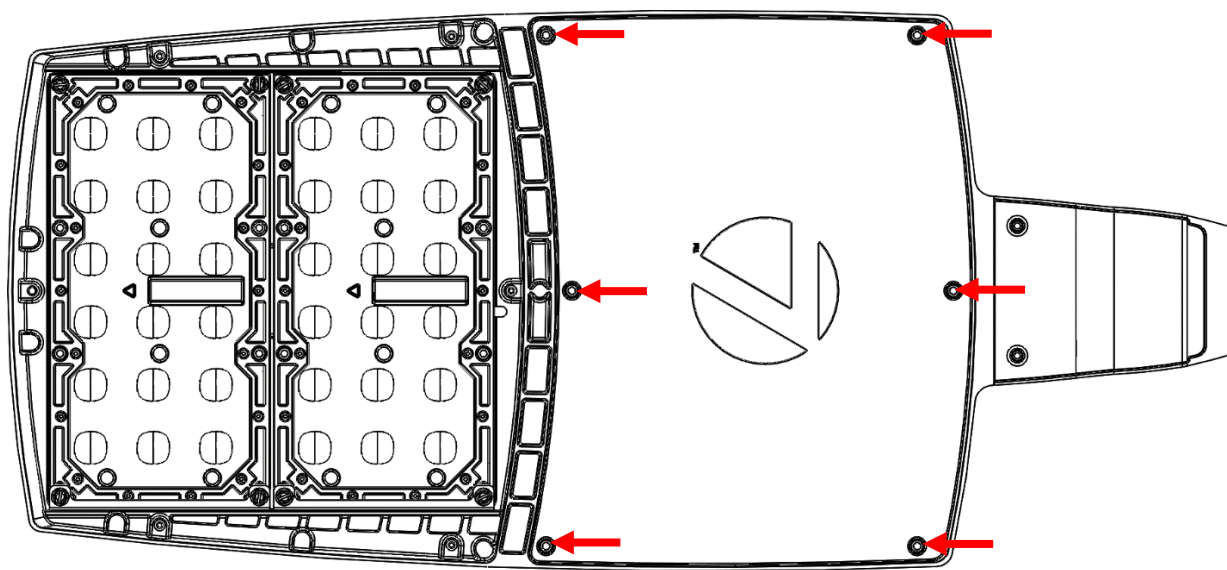

Figure 1 – RSX door screws. RSX2 shown.
**Step 1:** Door removal. Loosen all #10 socket cap screws attaching the door to the housing as shown in figure 1. On RSX1, RSX2, and RSX3 there are 6 screws, RSX4 has 8 screws attaching the door to the housing. All screws are designed to be captive. Do not purposely remove them from the door or dispose of them, they are required to reattach the door later.